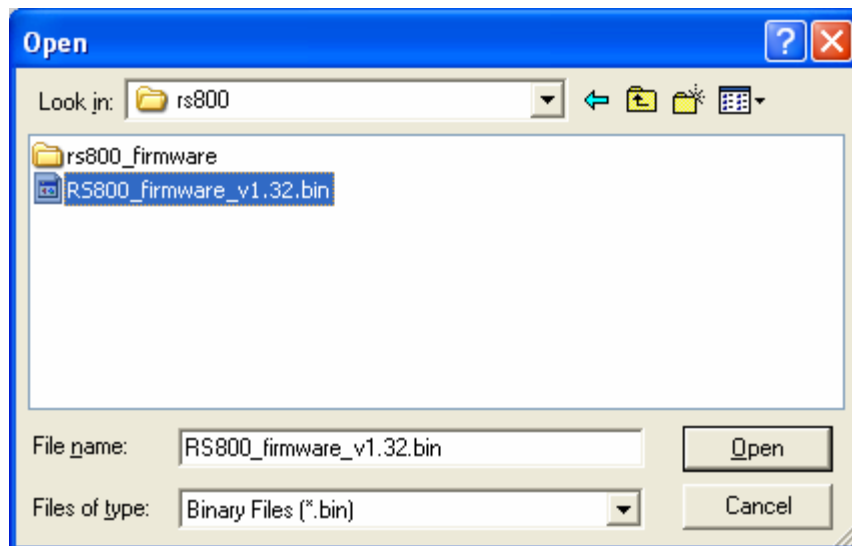

Fig. 45
Step 11: Click on “Browse” and select the correct firmware file (.bin extension) from the open file dialogue box. (Fig. 45)